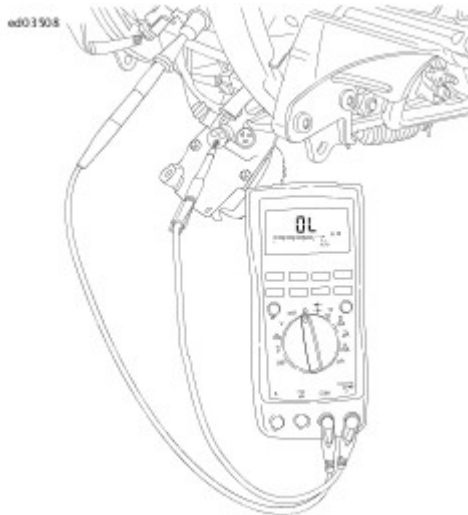

Figure 3. Test for Grounded Stator (Typical)
2. See **Figure 3**. Using **TEST CONNECTOR KIT (Part Number:HD-41404)**, connect an ohmmeter.